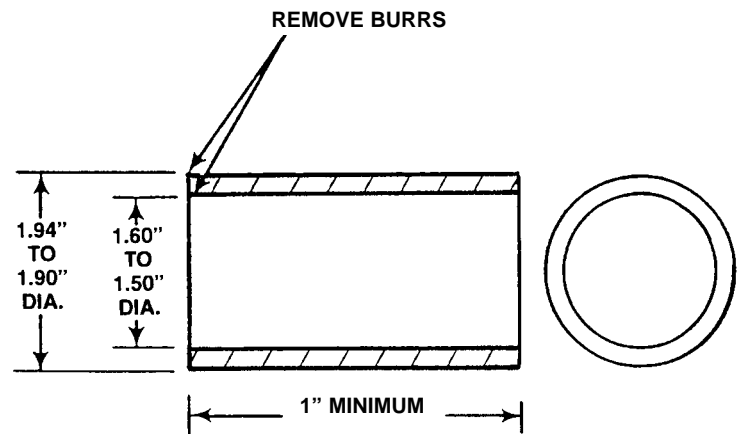

FIGURE 4.8-2 SEAL INSTALLATION TOOL
18. Using the seal installation tool (machined according to Figure 4.8-2), press the double lip seal into the seal housing until it locates against the shoulder.